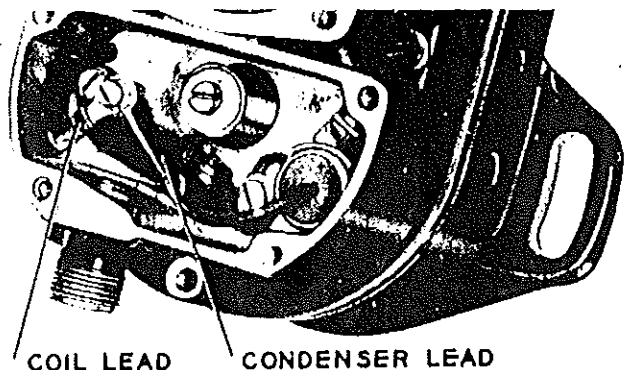
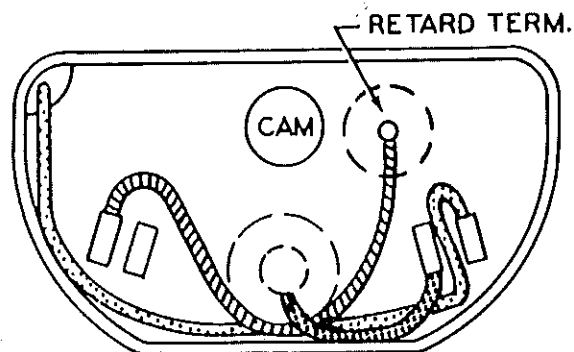

Figure 908. Correct Assembly of Leads to Contact Assembly
Figure 910. Forming Leads in Contact Compartment of Magneto with Counterclockwise Rotation
- A. Secure capacitor (42) in contact compartment using screw with washer (41) and 20 to 25 lb-in. of torque. If feed-through capacitor is used, secure capacitor to contact cover (15) using screws with lockwashers (41) and 8 to 12 lb-in. of torque.
- B. For Capacitor mounted in housing (48), connect coil primary lead and capacitor lead to contact assembly with screw (33) and lockwasher (34), tightened with 8 to 10 lb-in. of torque. Magnetos having a ground terminal on flat-type contact cover use a separate ground terminal spring (35). This spring must be assembled at the same time leads are connected and must fit directly against bracket of breaker assembly to assure correct positioning. Ensure coil primary lead does not rest against edges of housing (48). See Figures 908 and 909. For capacitors mounted in cover (15) connect coil primary to main contact as shown in Figures 910 and 911. Set capacitor (42) and cover (15) aside until after magneto is timed.